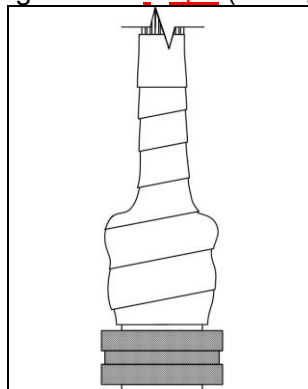

Figure 4
- 3.4.6 Cut off any excess Self-Fusing Silicone Tape (see figure 4)